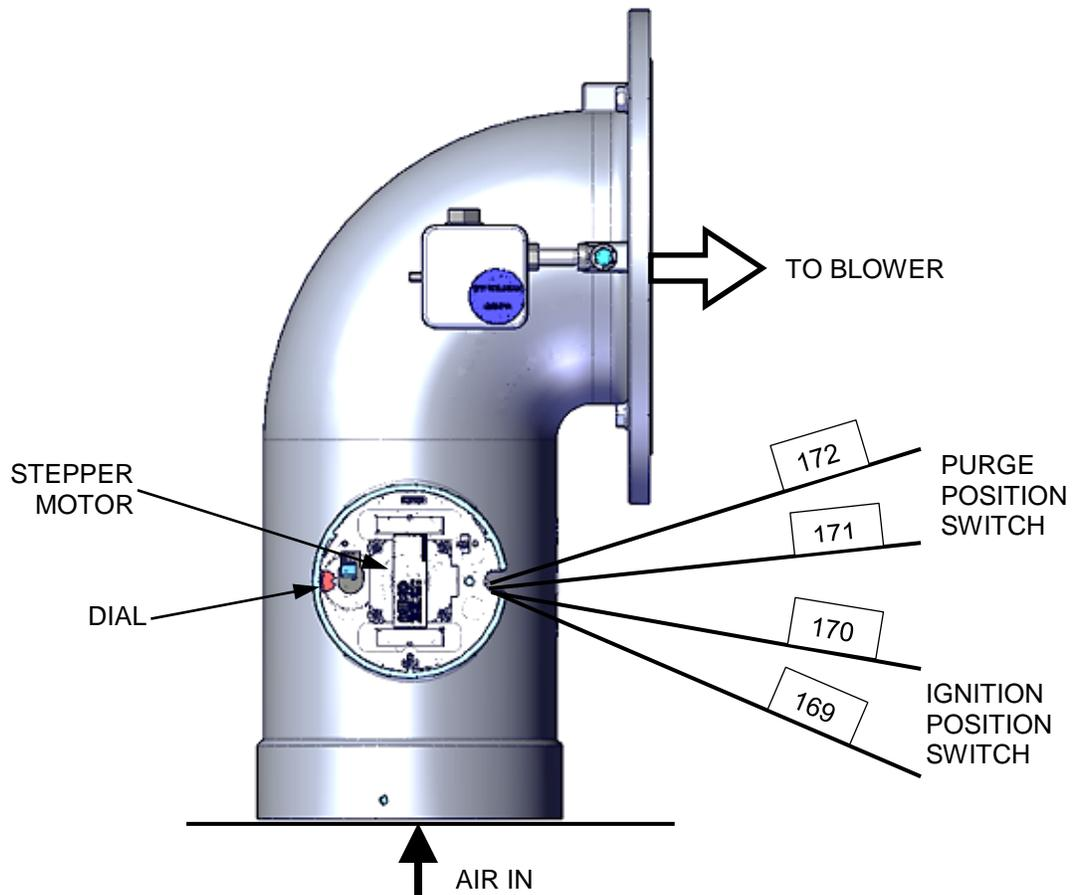

Figure 6-9: Air/Fuel Valve Purge and Ignition Switch Locations
4. Remove one of the two wires (#171 or #172) from the Purge Switch (Figure 6-9).
4. Remove one of the two wires (#169 or #170) from the Ignition Switch (see Figure 6-9).